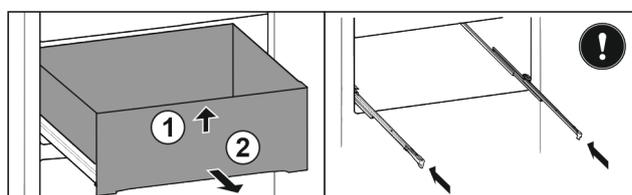

Fig. 35\*
- ▶ Lift up the drawer at the front Fig. 35 (1).
- ▶ Take out to the front Fig. 35 (2).